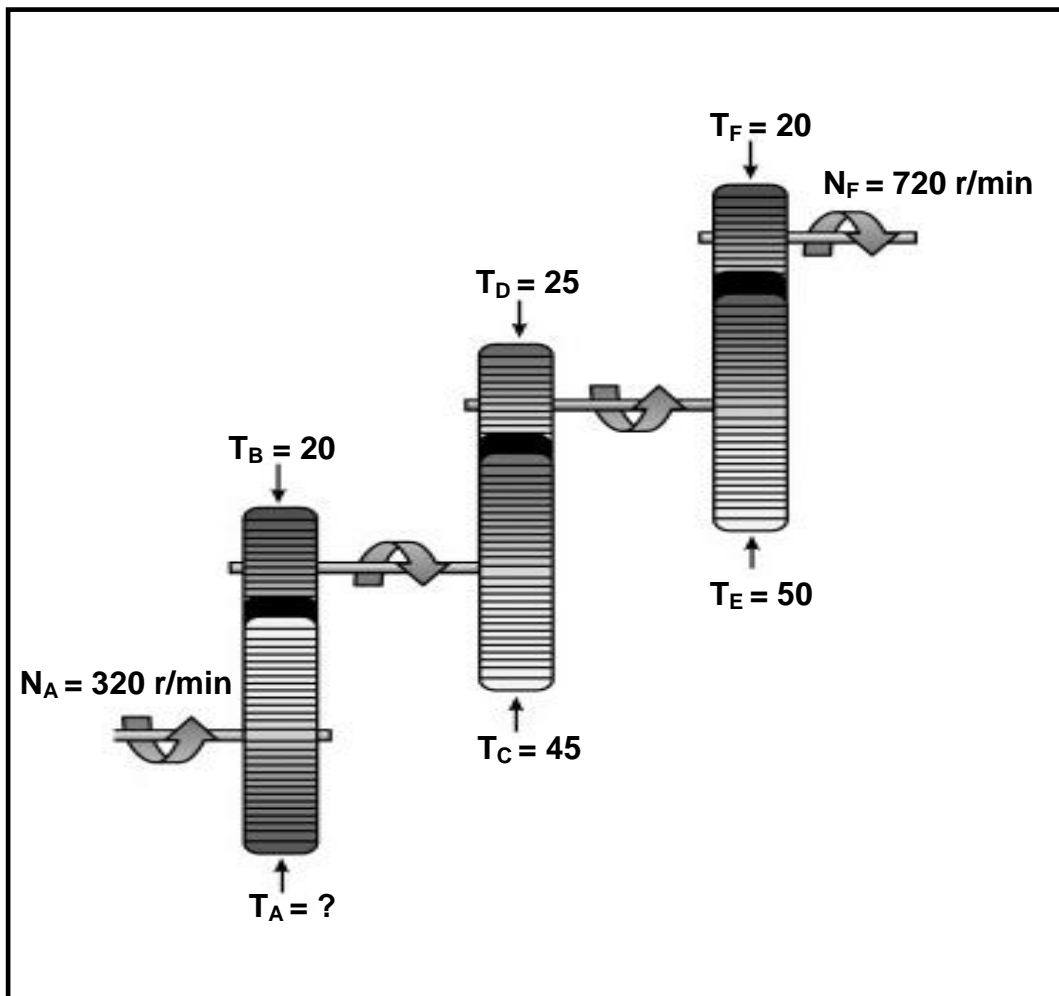

FIGURE 11.6
- 11.6 FIGURE 11.6 below shows a gear drive system. Driver gear **A** meshes with driven gear **B** with 20 teeth on a countershaft. On the countershaft is another driver gear, **C**, with 45 teeth that meshes with gear **D** with 25 teeth on a second countershaft. On the second countershaft is another driver gear, **E**, with 50 teeth that meshes with a final gear **F**. The rotational frequency of the input shaft is 320 r/min and the rotational frequency of the output shaft is 720 r/min. Answer the questions that follow.